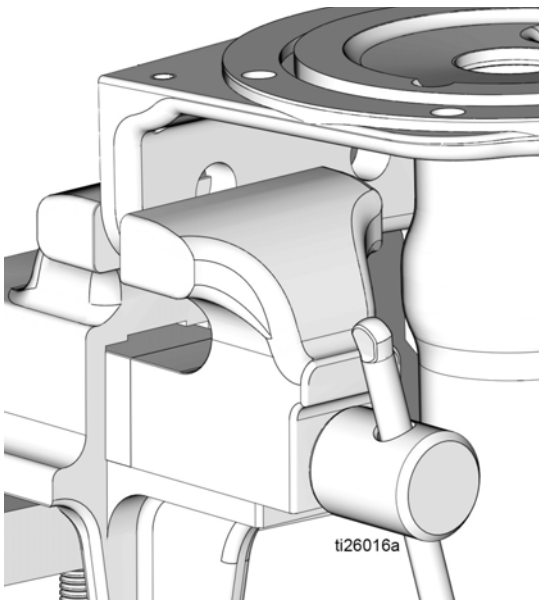

FIG. 29
1. Use a clean cloth to wipe down the pump base (1) and remove any dirt or contaminants. Inspect surface for any scratches or damage. Replace pump if the pump base is damaged.
2. If necessary, reposition pump base (1) in the vise as shown in FIG. 29.